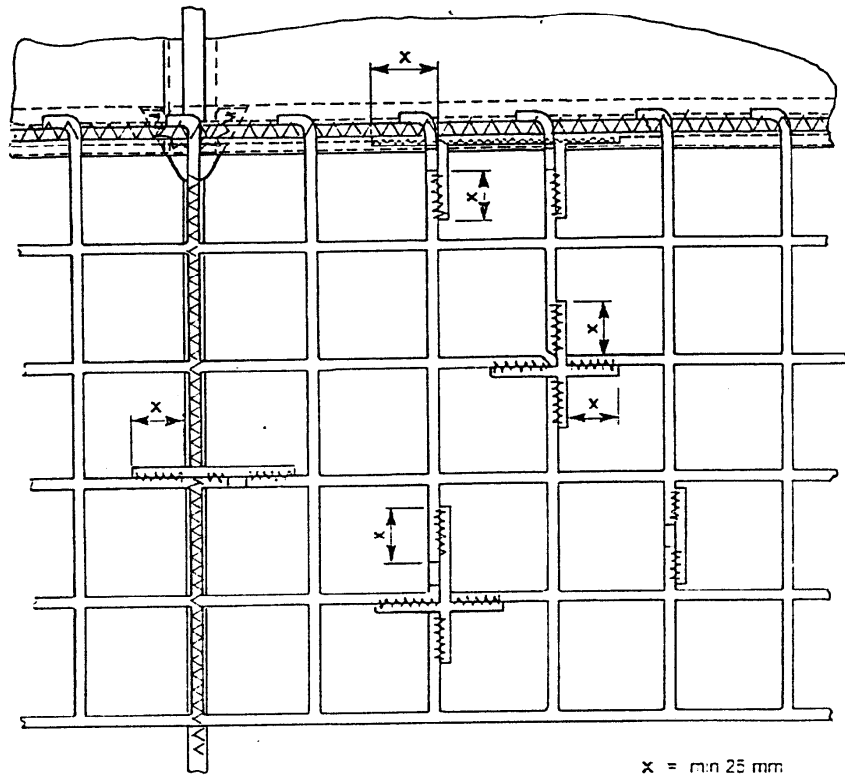

Figure 13 Repair net
- Sew with Nm 40/ 3 nylon thread using a zigzag sewing machine. (see Figure 13)